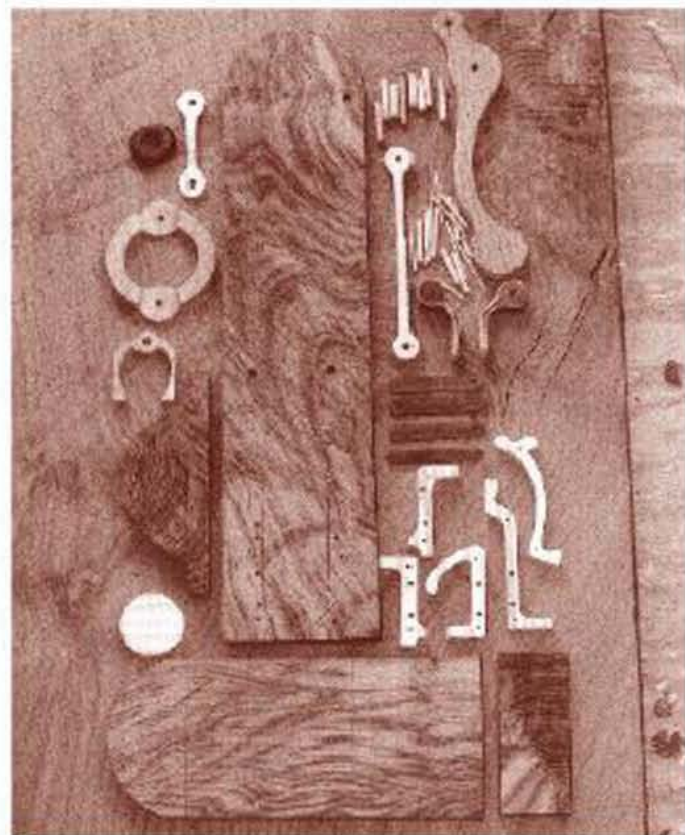

FIGURE 24-9
- 1** Check over the parts for splits or warps (Figure 24-9). Make sure the various mating surfaces are to size so the parts can work together smoothly.